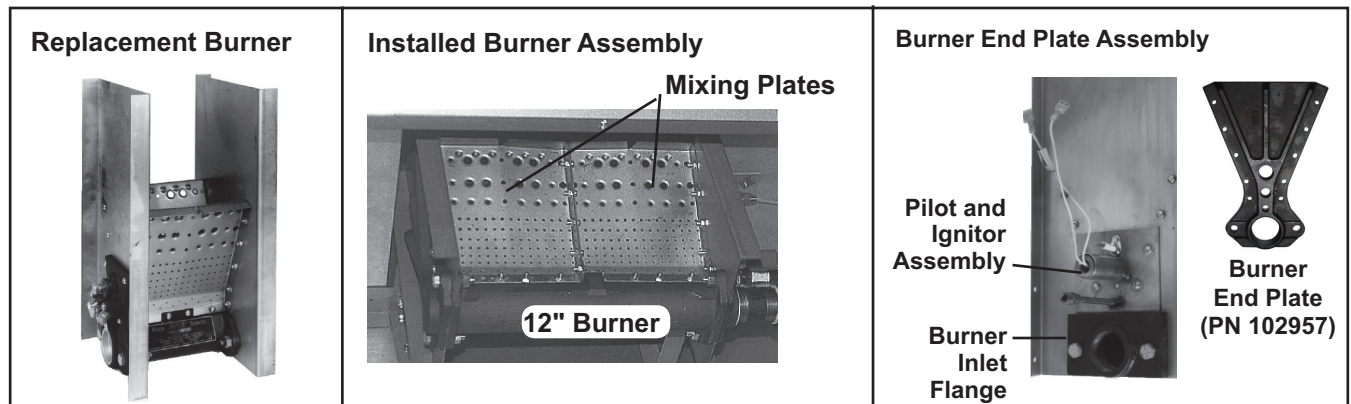

Figure 13. Burner Assembly—Units Manufactured *Before* SEP 2003
- Burner components for units manufactured *before* SEP 2003 are listed in Table 21 and shown in Figure 13.